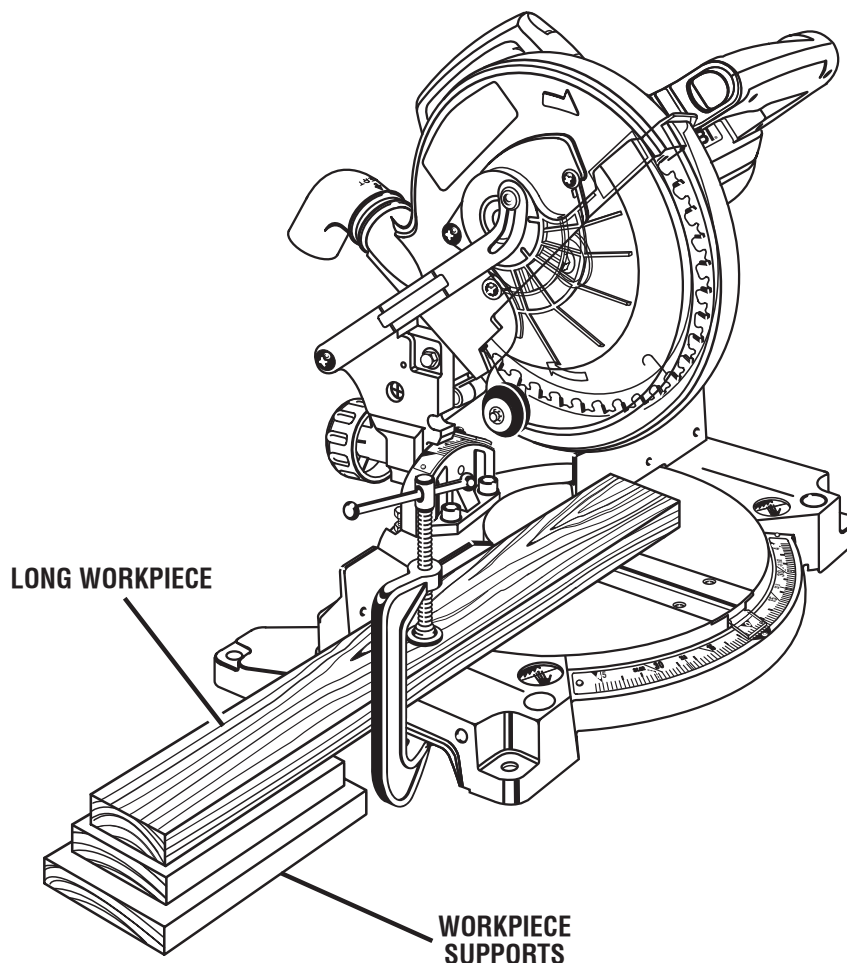

Fig. 39
- When cutting long pieces of lumber or molding, support the opposite end of the stock with a roller stand or with a work surface level with the saw table. See Figure 39.
*See Figure 39.*